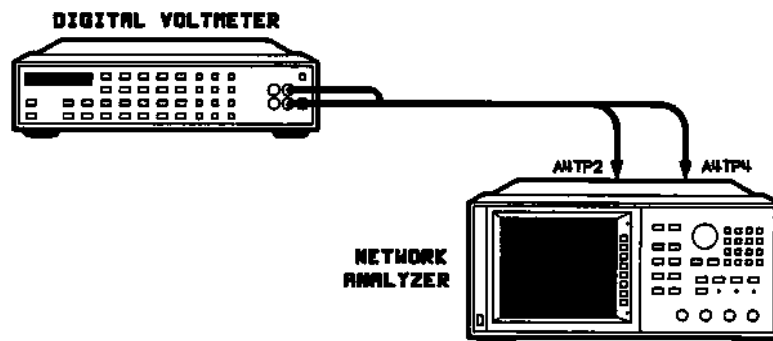
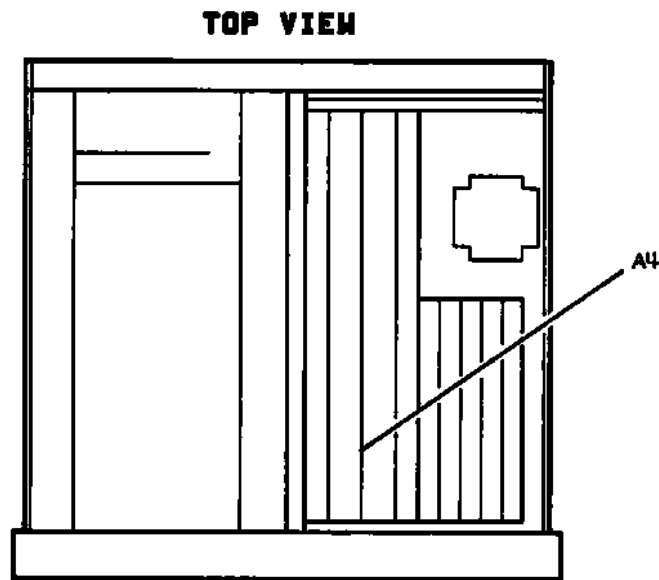
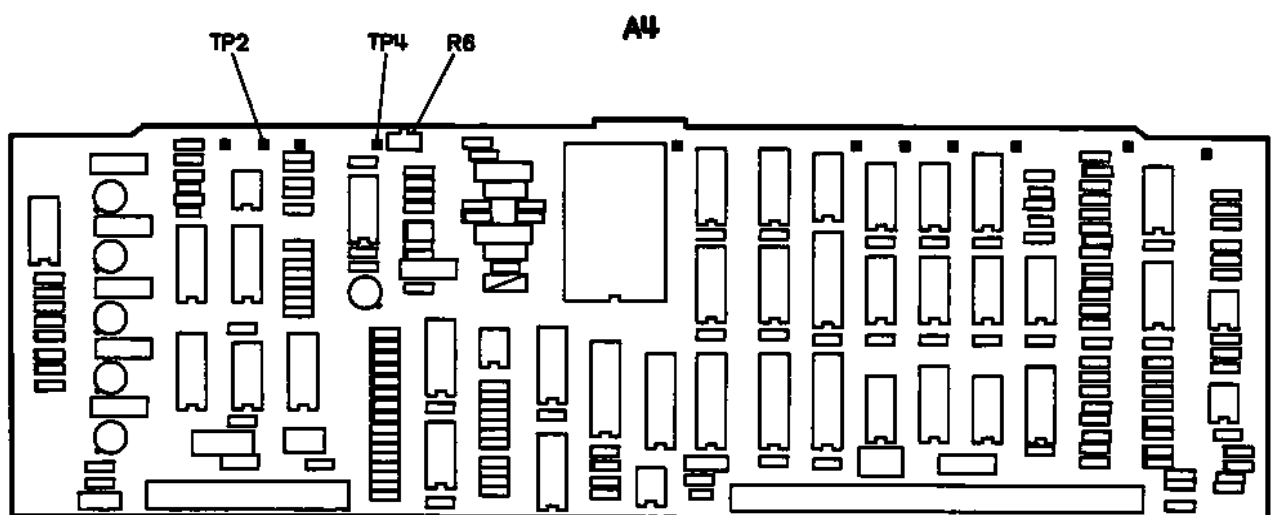

Figure 5-4. Sweep DAC Gain Adjustment Set-up
Figure 5-5. ADC Assembly Location
Figure 5-6. Sweep DAC Gain Adjustment Locations
3. Connect the equipment as shown in figure 5-4. The test points and adjustment control are accessible without removing the logger cover. Figure 5-5 shows the location of the A4 ADC assembly and figure 5-6 shows the adjustment locations on the A4 assembly.